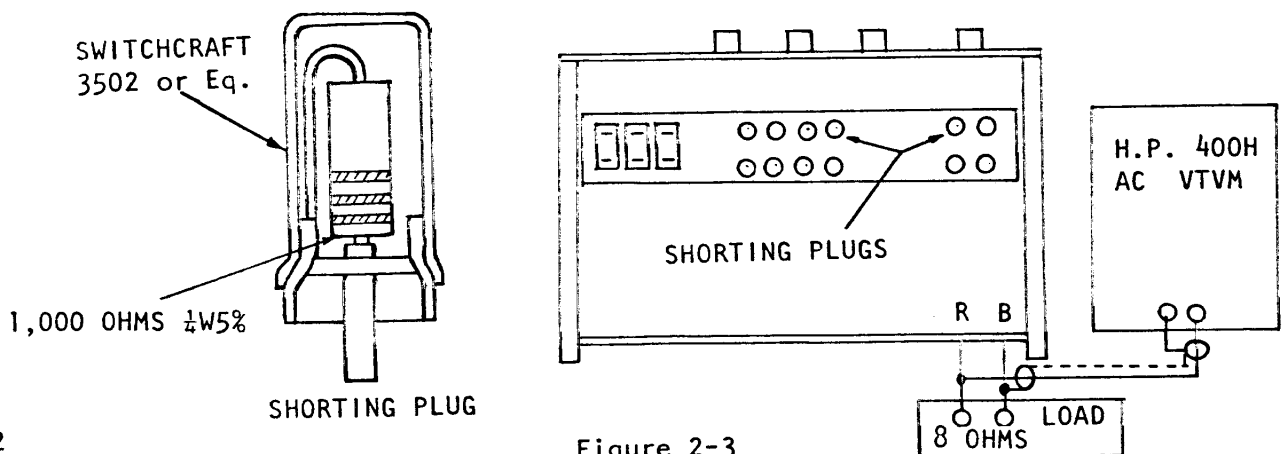

Figure 2-3
2.4.1.3 HUM AND NOISE - (Fig 2-3)